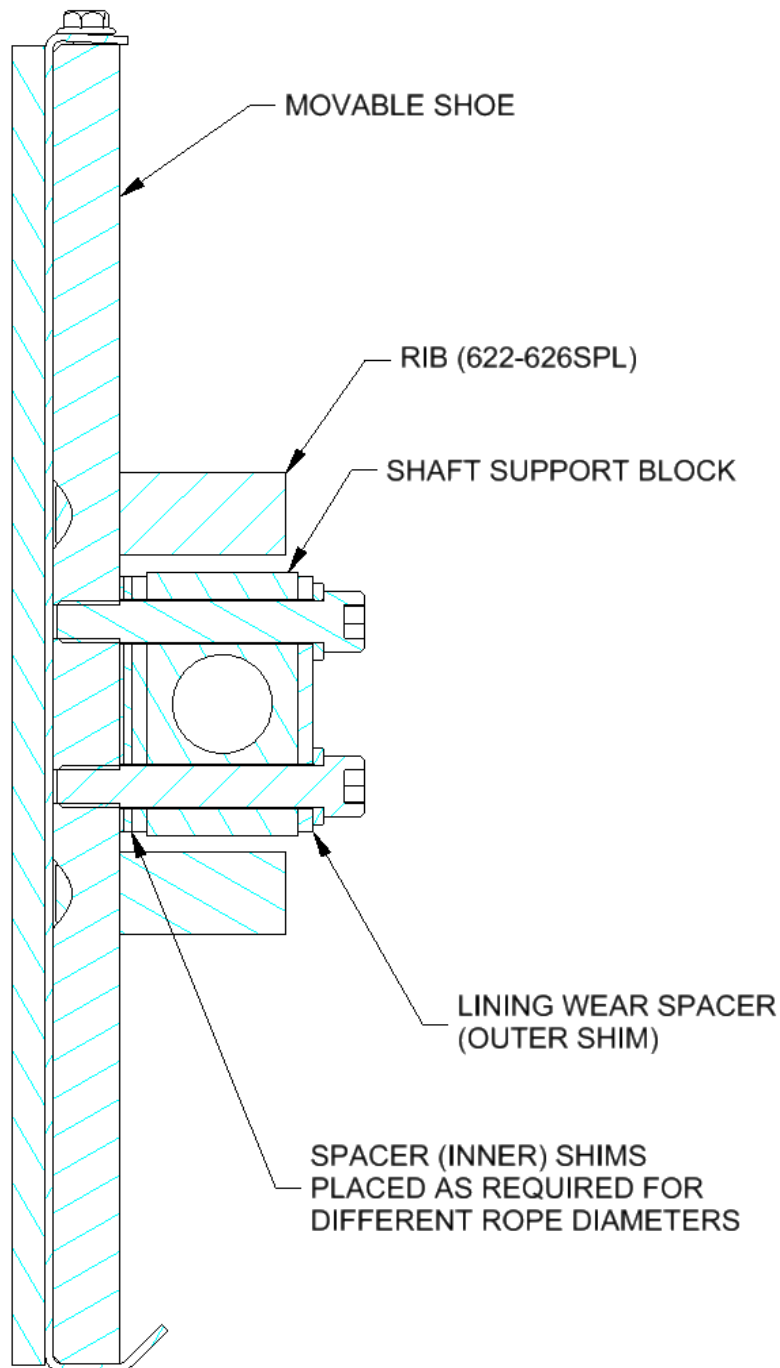

FIGURE 6
- If the lining wear-in is not completed after the grooves in the linings have reached approximately 1/16" deep, spacer shims (**Figure 6**) can be moved from between the shaft support blocks and moveable shoe to the outside of the support block to allow the rotating shaft to completely turn the corner and move up the cam. Refer to **Chart 3** for initial spacer and shim set-up. **Note: Before changing spacers, install security set screws to prevent unintended "ROPE GRIPPER®" activation, which could lead to severe personal injury and/or damage to the unit.**
2. If lining wear is not excessive (less than 3/16”), spacer shims (**Figure 6**) can be added between the shaft support blocks and the moveable shoe. Remove the bolts that hold the blocks to the movable shoe, place the lining wear spacer shims under the blocks and reinstall and tighten bolts. Addition of shims will lower the position of the rotating shaft toward the bottom end of the cam when gripping.